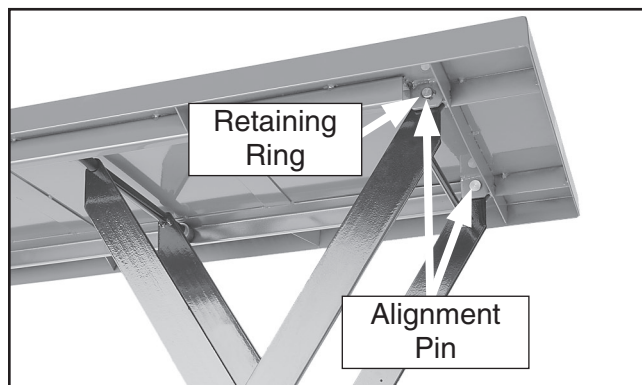

Figure 6. Interior retaining ring and pin (one side shown).
2. Remove the two 12mm external retaining rings and alignment pins securing the front of the table (**Figure 6**).